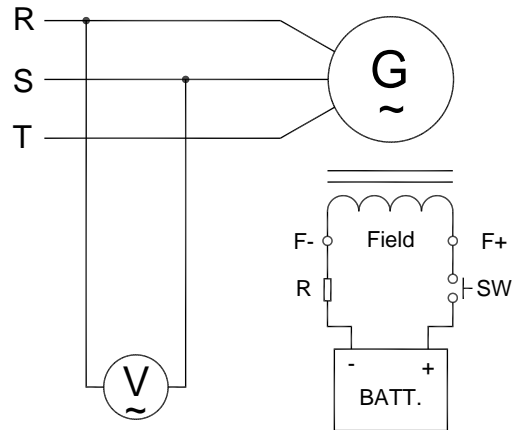

Figure 1 Manual Field Flash
8.2.1 Shut down generator, disconnect the wiring between AVR and generator then flash the field. Flashing duration = 3 seconds. (See wiring in Figure 1)
8.2.2 Restart generator and measure the residual voltage by AC Voltmeter, if it is still less than 5 Vac, repeat the previous process, after several times, the residual voltage still cannot be built, Kutai EB500 is strongly recommended, see Figure 1.